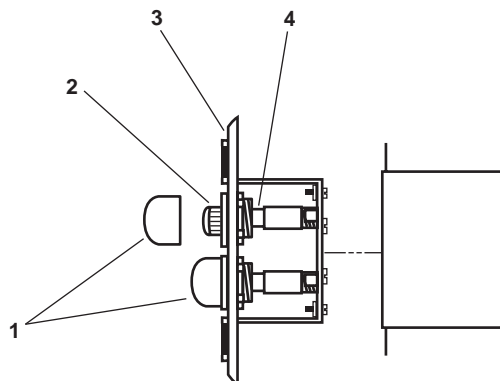

Figure 1. Fire Detection System Warning Light Replacement (Remote Indicator Panel)
1. Unscrew and remove the lens cover (figure 1, item 1) from the lamp (figure 1, item 2) located on the remote indicating panel (figure 1, item 3).
2. Remove the lamp (figure 1, item 2) from the socket (figure 1, item 4) by pushing the lamp in slightly. Discard the lamp.
1. Install the lamp (figure 1, item 2) in the socket (figure 1, item 4).
2. Install the lens cover (figure 1, item 1) over the lamp (figure 1, item 2).
5. Test the fire detection system (WP 0017 00), ensuring that the warning lights on the remote indicating panel (figure 1, item 3) are operating properly.